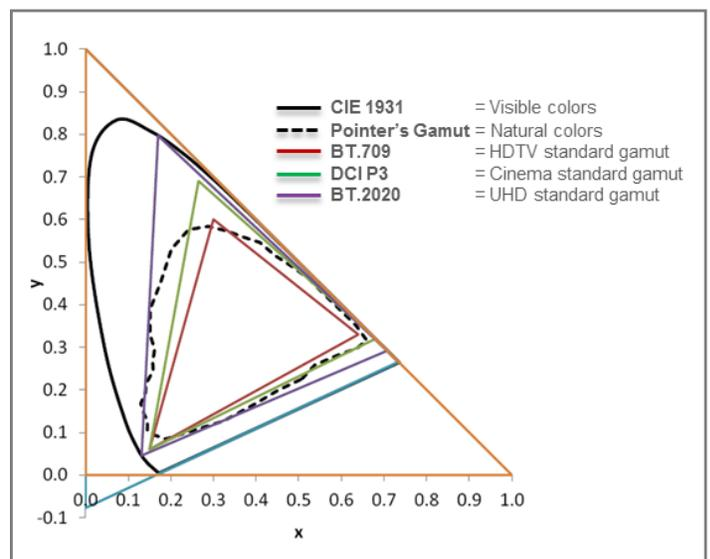

Figure 2 – Comparison of different color gamuts.
**Recommendation ITU-R BT.2020:** Parameter values for ultra-high definition television systems for production and international programme exchange specify for UHD applications a new color space also known as wide color gamut (WGC), which can reproduce colors that cannot be shown with the BT. 709 (HDTV) color space (see Figure 2.).